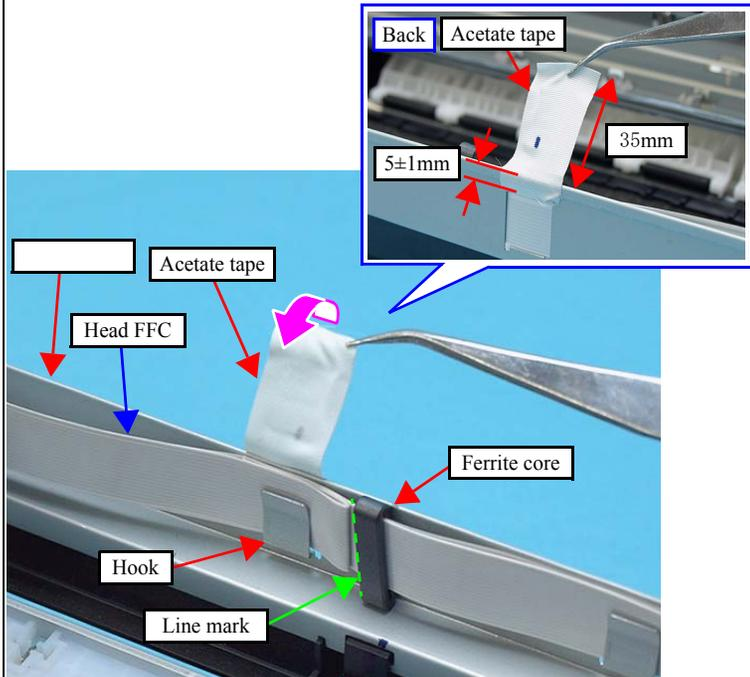

Figure 4-48. Acetate tape position
2. Secure the FFC to the Front Frame with the acetate tape shown in **Figure 4-48**.